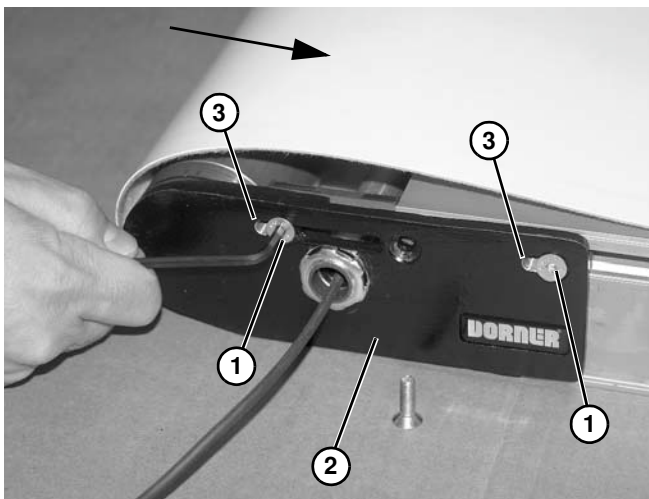

Figure 48
- Loosen outer fastening screws (Figure 48, item 1) from iDrive head plate (Figure 48, item 2) (on each side of conveyor) to allow head plate assembly to slide in slots (Figure 48, item 3). Push head plate inward toward conveyor.